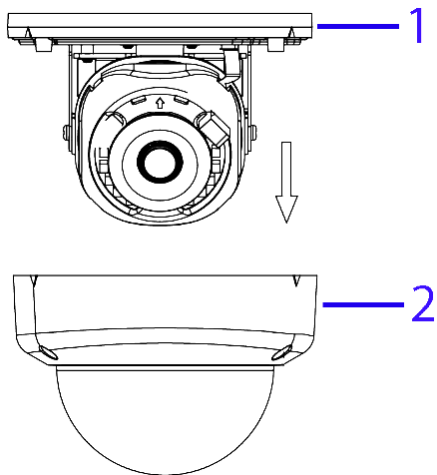

Figure 1
A. Use the Torx wrench to loosen the three screws on the camera top cover (1) (Figure 1) and gently remove the cover (2) (Figure 1).